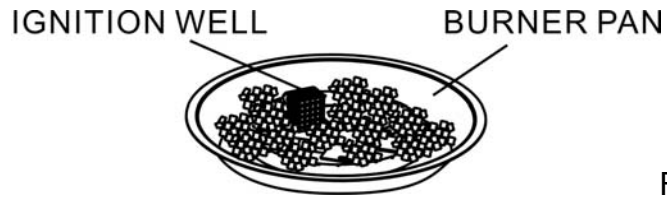

Figure 6
6. Pour ALL of the provided media (fire ice or lava rock) into the burner pan. The burner **MUST** be completely covered to ensure the appliance functions properly and safely. Remove any lava rocks or fire ice on top of the ignition well. See Figure 6.